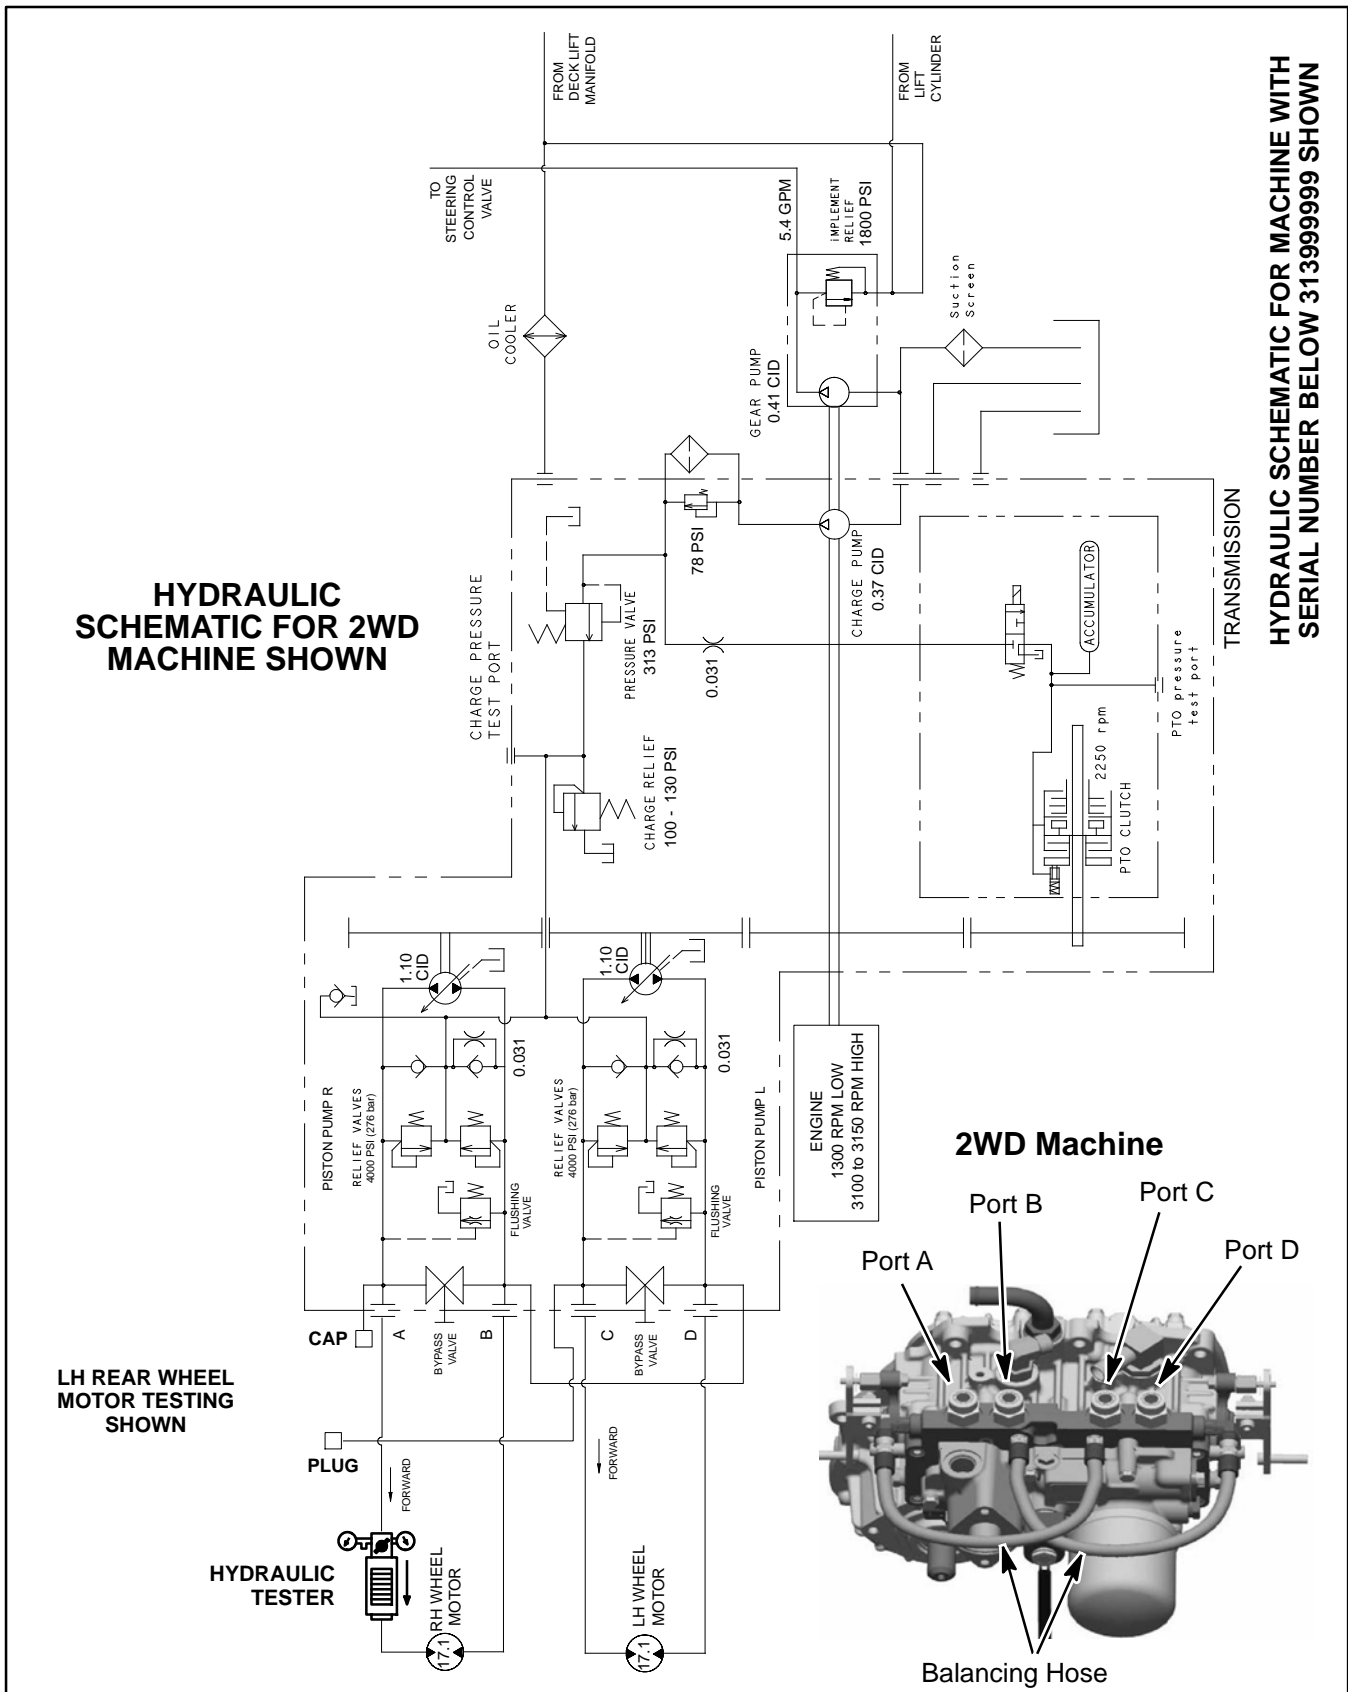

Figure 33
7. Thoroughly clean area surrounding traction circuit hoses on top of transmission (Fig. 33 or 34). Determine which rear wheel motor is to be tested.
8. Disconnect hydraulic hose from transmission pump outlet fitting for rear wheel motor to be tested (Fig. 33 or 34):
10. Disconnect balancing hose from transmission fitting closest to transmission pump outlet fitting for rear wheel to be tested (Fig. 33 or 34). Install steel cap on fitting and steel plug in balancing hose.